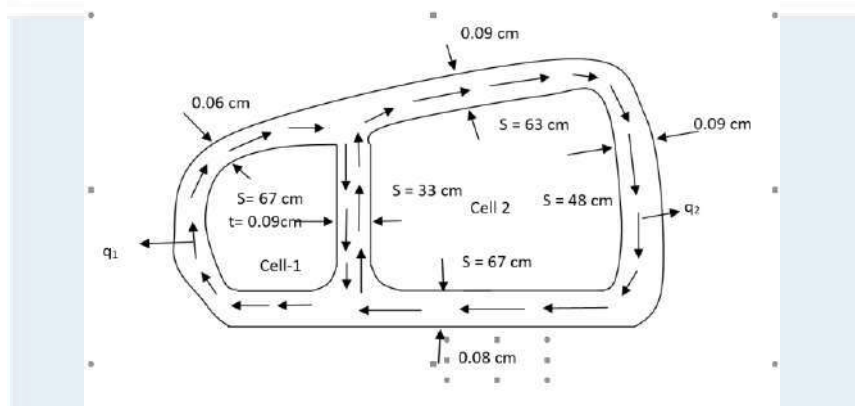

Fig.1
12. Figure 1 shows a two cell tubular section having one interior web. An external torque of 10,000 N-m is acting in a clockwise direction. Determine the distribution of internal shear flow. The peripheral lengths are as shown in figure. The cell areas are as follows: $A_1 = 800 \text{ cm}^2$ and $A_2 = 1780 \text{ cm}^2$.